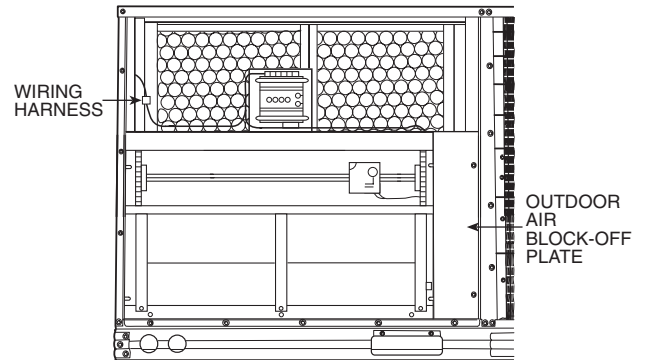

Fig. 25 — EconoMi\$er Installed
7. Install the outdoor air block-off plate, then secure the EconoMi\$er with the screws provided. See Fig. 25.